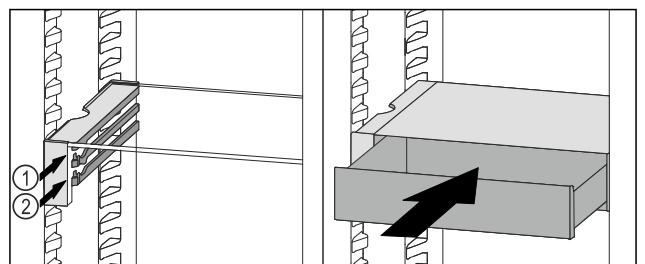

Fig. 87
- ▶ Place the VarioSafe drawer behind the stoppers on desired rib *Fig. 87 (1)* or *Fig. 87 (2)*.